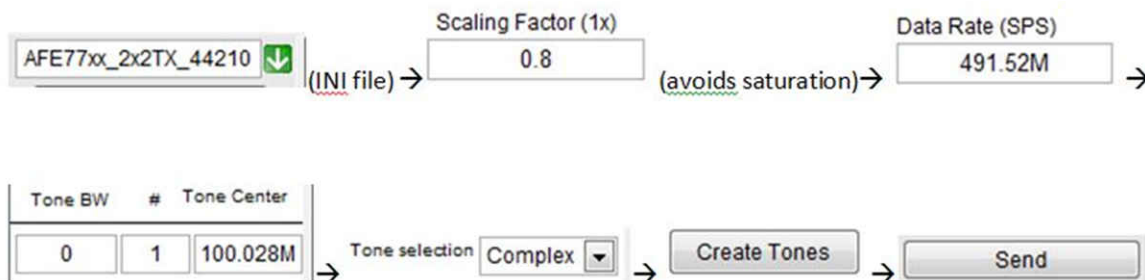

Figure 7-2. Setup a Sinusoid
2. A pictorial representation to create and send a sinusoid is shown in Figure 7-2.